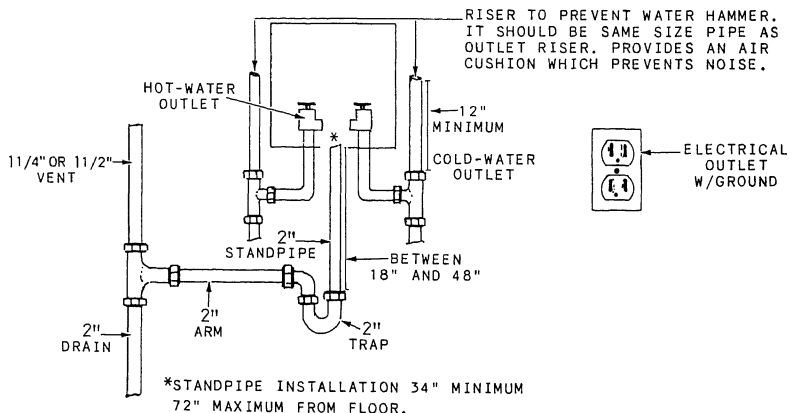

Figure 12-31.—Automatic washer installation.
1. The standpipe receptor should be properly trapped and vented. The standpipe should extend no more than 48 inches or less than 18 inches above the trap. (See fig. 12-31.)